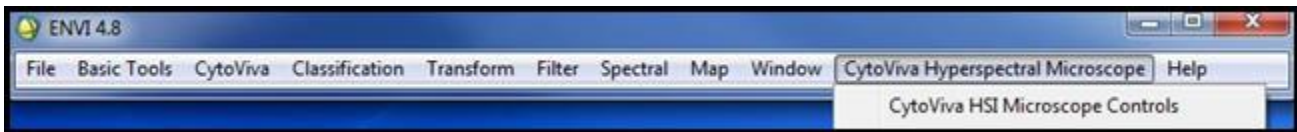

Figure 2.1a
- Select CytoViva HSI Microscope Controls (Figure 2.1a).